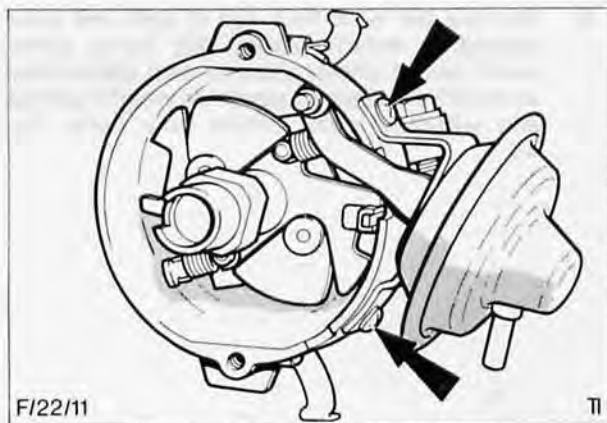

Fig. 41. Vacuum unit securing screws
5. Remove two screws retaining vacuum unit to body and detach unit, Fig. 41.